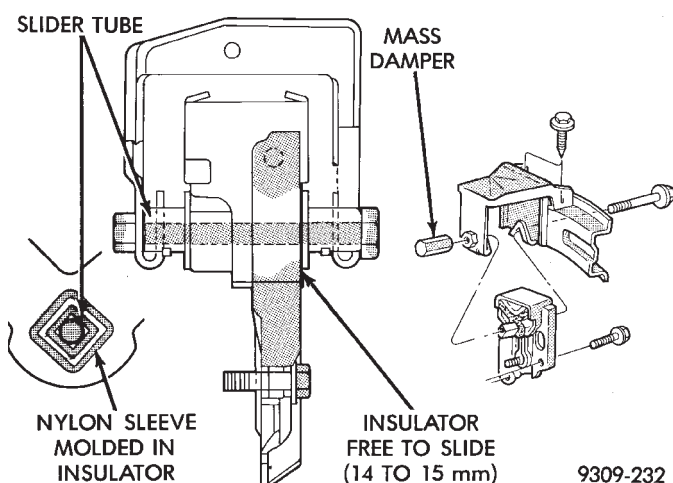

Fig. 4 Left Insulator Movement
Check and reposition right engine mount insulator (left engine mount insulator is floating type and will adjust automatically (Fig. 4). Adjust drive train position, if required, for the following conditions:
(17) Remove ground strap.
(18) To **lower** engine separate right engine bracket from yoke bracket To **raise** engine remove long bolt through yoke and insulator. IF INSULATOR TO RAIL SCREWS ARE TO BE REMOVED, MARK INSULATOR POSITION ON SIDE RAIL TO INSURE EXACT INSTALLATION (Fig. 4).
(19) Remove transmission case to cylinder block mounting screws.